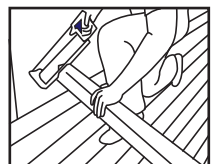

Figure 2
3. Mark top of rail where it crosses the mounting surfaces and cut to length and angle. Lay top rail beside bottom rail, aligning spindle holes. Mark and cut to match length and angle (Fig. 2).